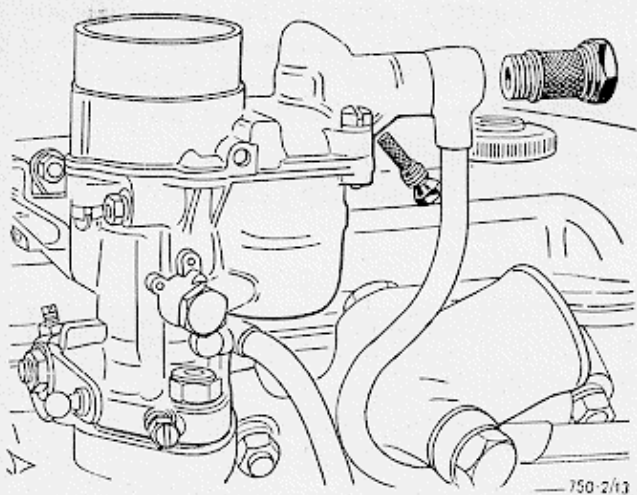

Fig. 13 - Carburettor Solex C 32 BIC for Giulietta Berlina: fuel filters
f) **Take out the fuel filters**, mounted on the cover of the Solex C 32 BIC carburettor fitted to the Giulietta Berlina, and wash them in petrol (fig. 13).